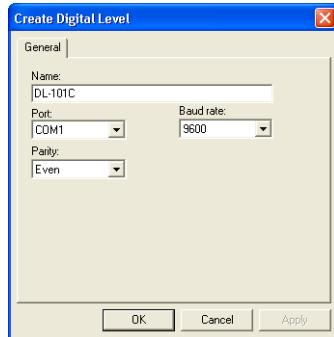

Figure 2-35. Digital Level Properties
4. Click the *Create Digital Level* dialog box (Figure 2-35) and enter the following information.